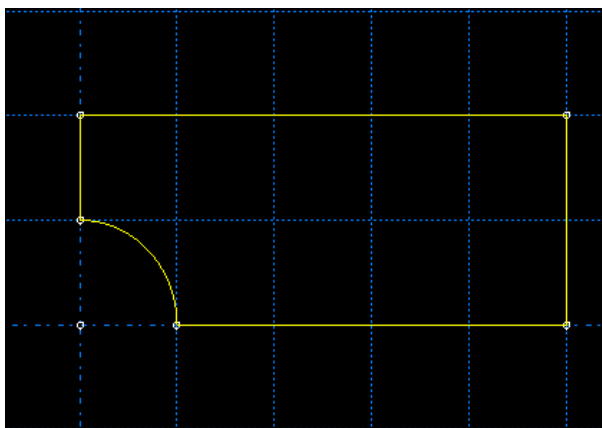

Figure 5-3 The plate geometry
- following geometry, see Figure 5-3.